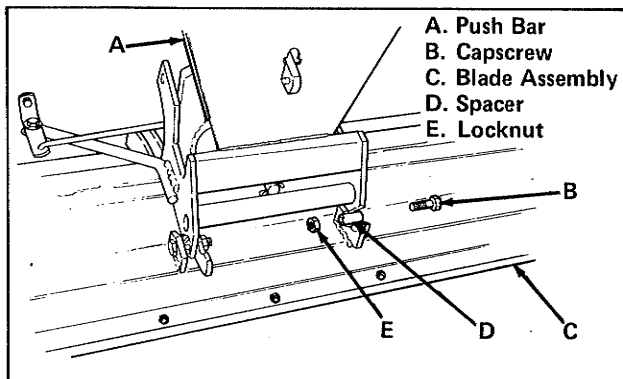

Figure 1. Attach Push Bar to Back of Blade
1. Insert a spacer (item D, figure 1) into each of the two mounting holes of the push bar (item A).